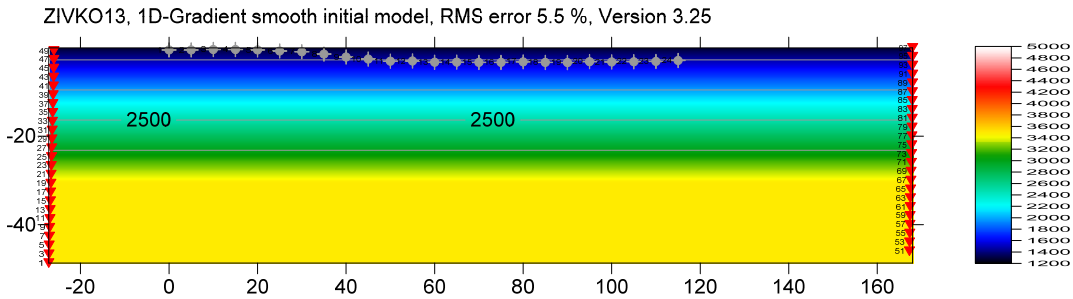

Fig. 14 : our 1D-gradient starting model, built with Surfer *Grid|Funtion...*, see Fig. 12
Next we build a 1D-gradient starting model with Surfer. We can't use our DeltatV method for this, since there are no surface shots recorded, between the receivers. Then we rerun WET inversion with Fig. 14 as starting model, and limit the max. velocity to 4,500 m/s :
- select *Grid|Image and contour velocity and coverage grids...* and your GRADIENT.GRD for Fig. 14